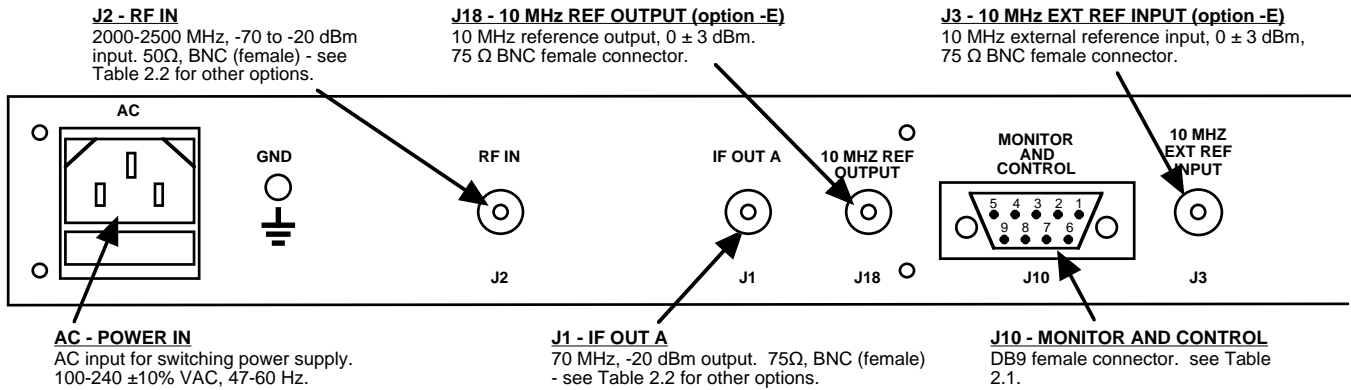

FIGURE 2.2 2016-25 Downconverter Rear Panel Inputs/Outputs
2.2 Rear Panel Input/Output Signals - Figure 2.2 shows the input and output connectors on the rear panel.
1. Connect a -20 dBm to -70 dBm signal to RF In, J2 (Figure 2.2)
Alarm indications appear on the LEDs (see figure 2.2).